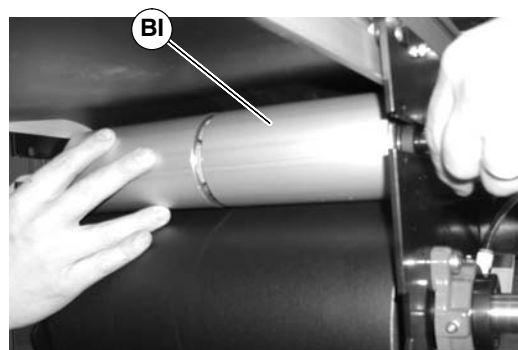

Figure 85
7. Slide out tensioning pulley (BI of Figure 85).